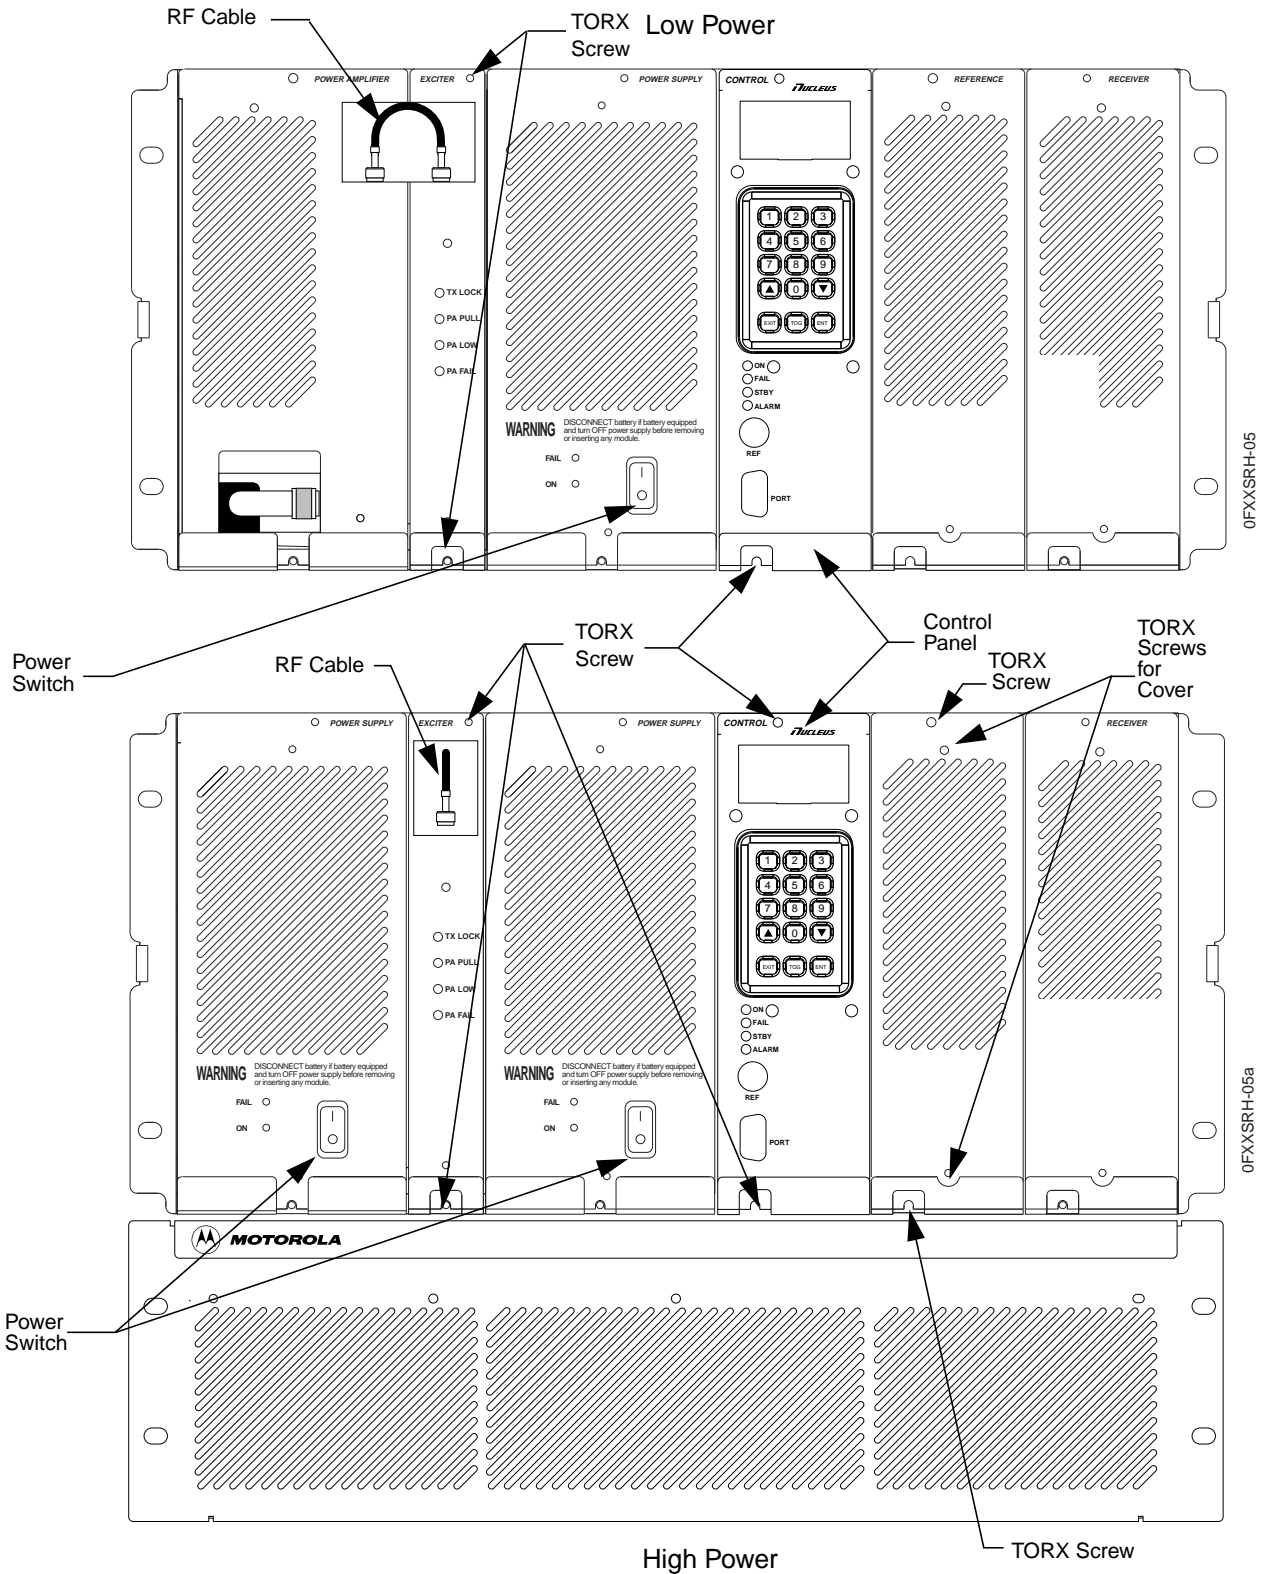

Figure 1: Typical Nucleus Paging Station
3. At the front of the paging station, place the ON/OFF power switch on the power supply(s) in the off (0) position (see Figure 1).
5. Using a TORX® driver with a T15 TORX bit, remove the two screws securing the control panel of the Nucleus paging station to the chassis (see Figure 1).
1. At the front of the paging station, remove the two TORX screws securing the reference module to the chassis using a TORX driver and a T15 bit (see Figure 1).
1. Using a TORX driver with a T15 TORX bit, remove the two screws securing the Exciter module to the chassis (see Figure 1).
8. Install and secure the control panel in position on the chassis with the two TORX screws removed in paragraph, "SCM and NIU Removal", Step 5 using a TORX driver with a T15 TORX bit (see Figure 1).
5. Secure the Exciter in the chassis with two TORX screws using a TORX driver with a T15 TORX bit (see Figure 1).